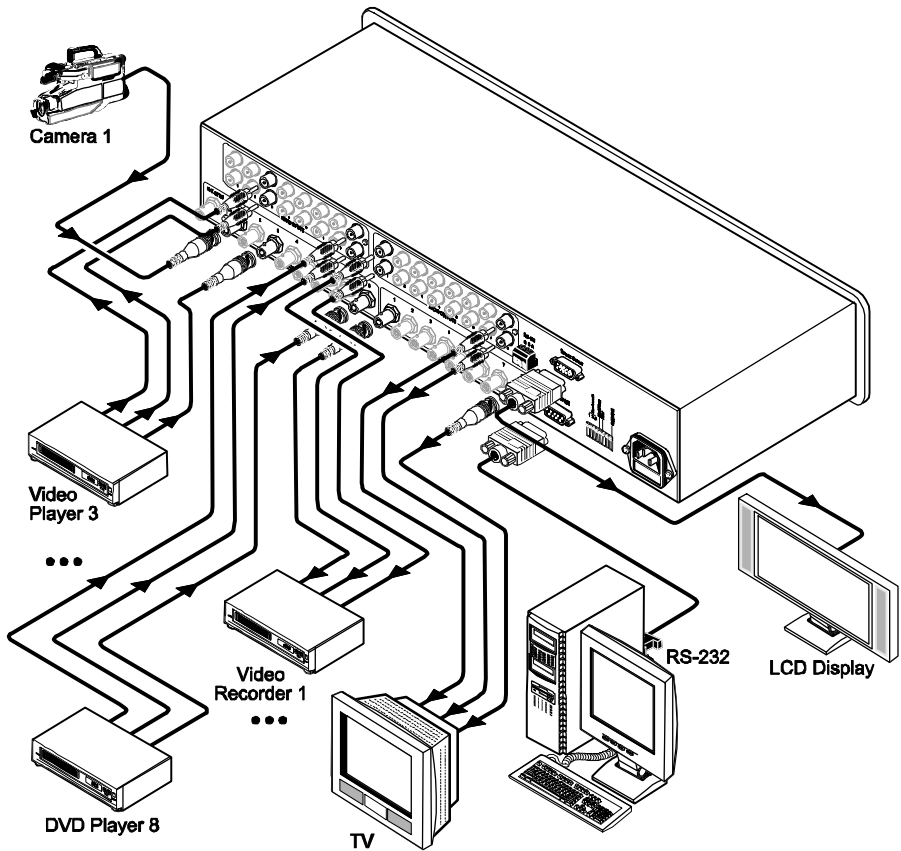

Figure 2: Connecting the VS-808DS 8x8 Video Audio Matrix Switcher / Scaler
To connect1 the **VS-808DS**, as the example in Figure 2 shows, do the following2:
5. Connect the power cord to the mains electricity (not illustrated in Figure 2).